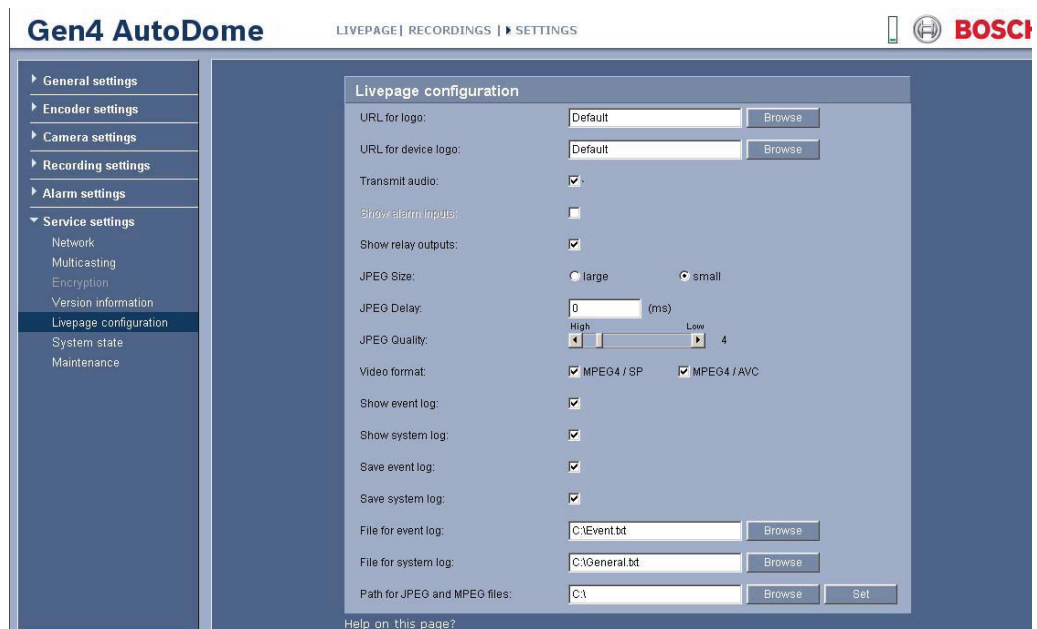

Figure 9.2 Livepage Configuration
2. Click Service Settings from the left pane, then click Livepage Configuration. The IP AutoDome displays the Livepage Configuration screen (see Figure 9.2).